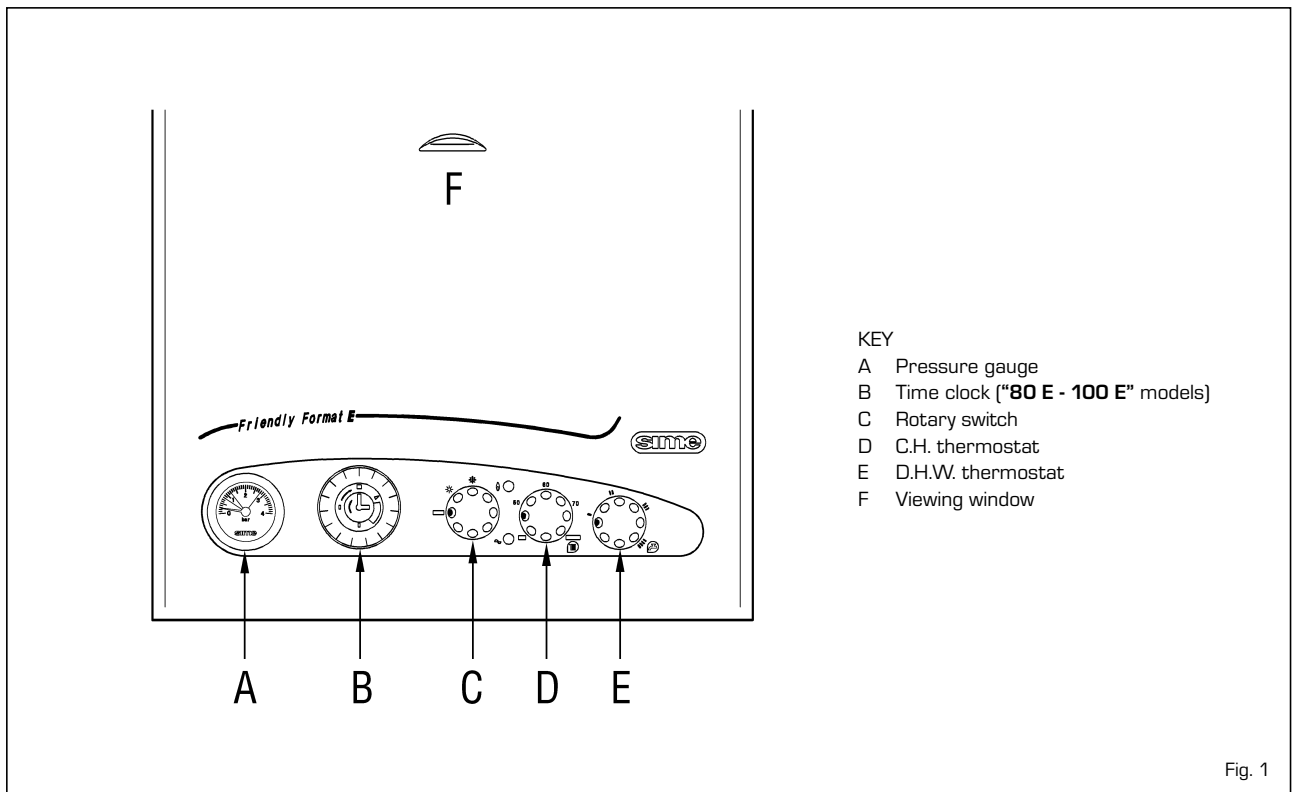

Fig. 1
1.3.1 To light the appliance (see fig. 1)
- Turn the rotary switch (C) to SUMMER (water only) position "☼".
- Switch on the electricity supply and full open any D.H.W. tap. The burner will light. Check that the burner has lit by looking through the viewing window (F). If the burner fails to light, turn the rotary switch to "☼" position and release it immediately; then turn it to the SUMMER position: the burner should now light. Turn off the tap.
- Check that the room thermostat and time clock (if fitted) are calling for heat. Turn the heating potentiometer (D) to maximum (fully clockwise).
1.3.2 To turn the appliance off (see fig. 1)
The gauge (A fig. 1) on the fascia panel indicates the approximate system pressure. If the normal running pressure is seen to decrease over a period of time there is a water leak and you should consult your installer or service engineer.